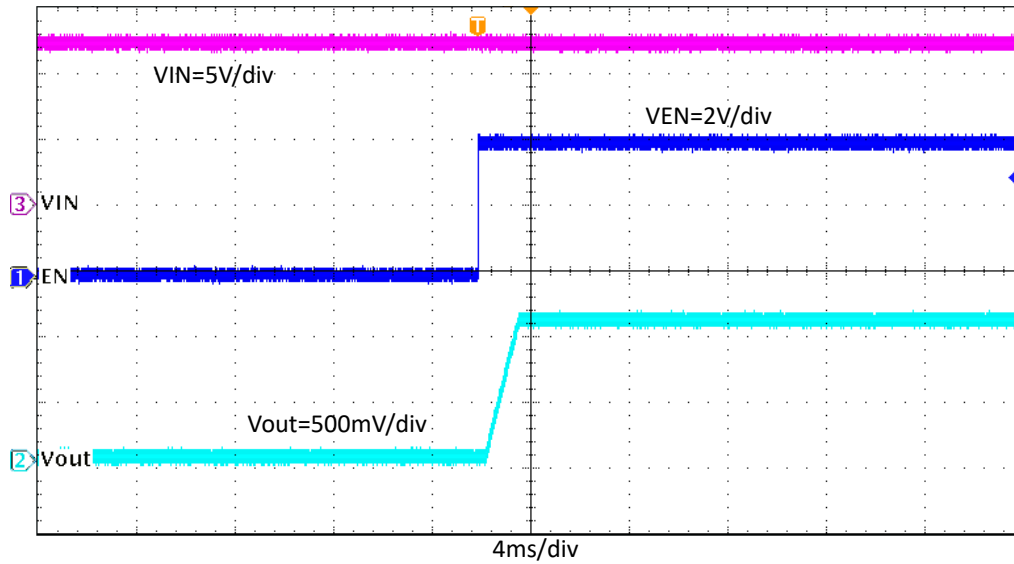

Figure 7-11. TPS562203EVM Start-Up Relative to EN
Figure 7-11 shows the TPS562203EVM start-up waveform relative to enable (EN). The load is 2 A.